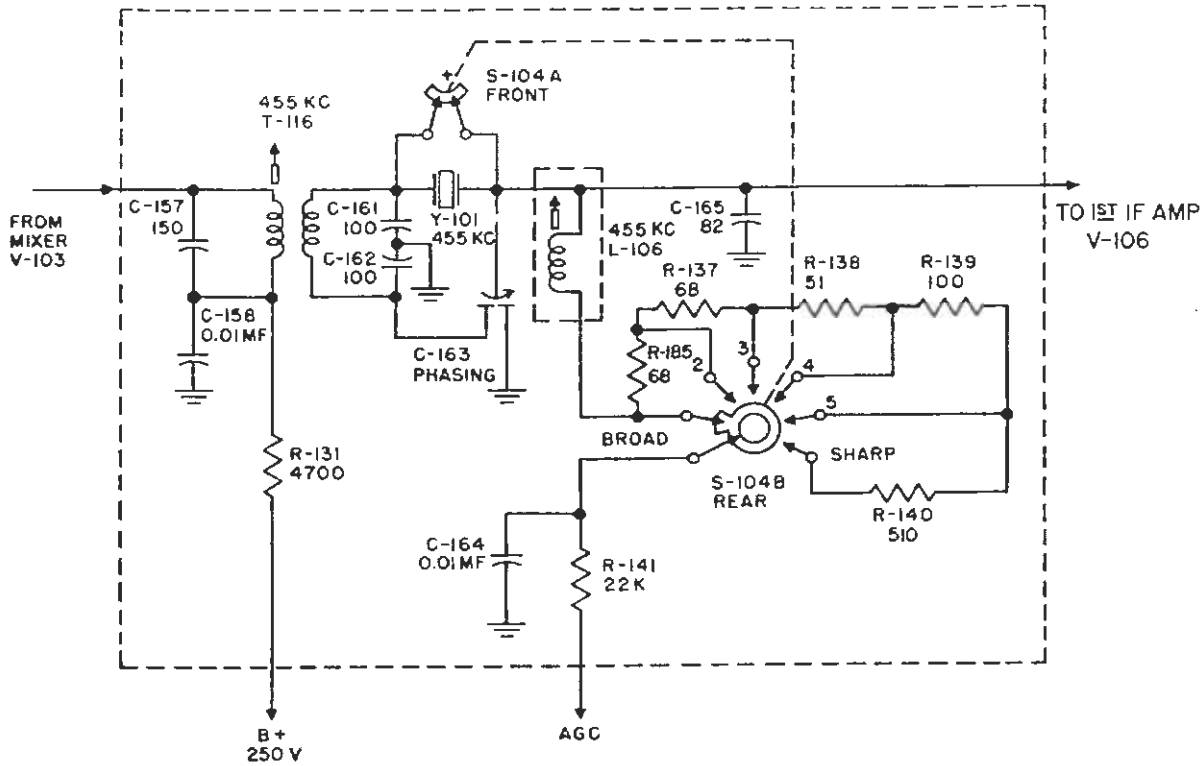

Figure 2-6. Crystal Filter.
(6) IF AMPLIFIER STAGES. (See figures 2-6 and 2-7.)